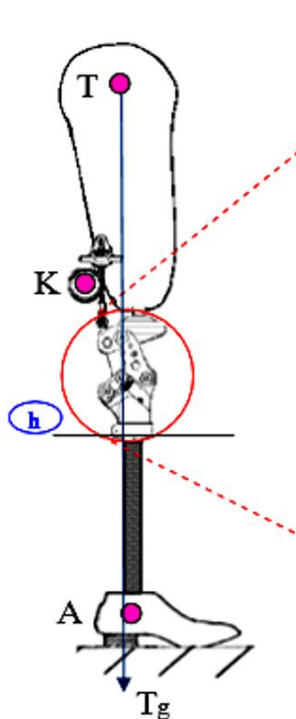
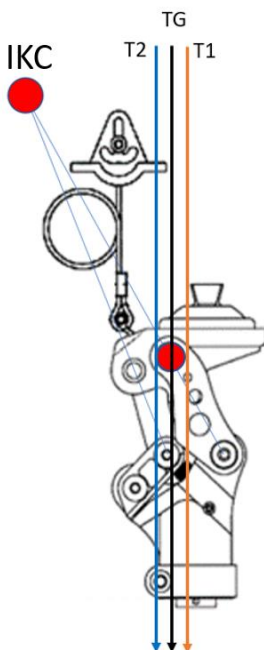

Fig. 2
Fig. 3
Note: 4-bar knees inherently are very stable due to the geometry built into each design. This is commonly referred to as the Instant Knee Center (IKC). The IKC point when doing bench alignment, will fall behind the traditional TKA line that we will reference. (Fig. 2,3) Tg line in Fig. 3 is ideal placement, but in certain instances, it may be necessary to accommodate placement anteriorly (into the T1 zone **up to 2mm**), or posteriorly (into the T2 zone **up to 2mm**). The Tg line is referencing a moving weight bearing line, so it could be in T1, neutral, or in T2 zones.
a) With prosthesis assembled, taking into account hip flexion contractures, abduction, Line Of Progression, and toe out (Fig.2), the TKA plumb line should pass through the knee center (at the proximal/anterior pivot – red dot pivot Fig.3) and in front of the K point (IKC).
- d) The weight line for Sagittal or A/P plane should have the plumb line passing through T (Tg) line. Ideally, Tg line should pass through the knee center (red colored pivot) and be perpendicular to the ground. (Fig. 3)
- e) **When to use ZONE 1 option** - For the higher weight spectrum patients, Tg line should pass slightly into the “Zone I” area (up to 2mm), which is indicated as up to “T1” (Fig. 3) so that it will reduce stance flexion moment forces of the 5th bar. It is recommended to have controlled stance flexion action of the 5th bar, and not to lock it out or have excessively long duration of it. Excessive stance flexion moment and/or duration can be adjusted through tightening the “Flexion Control Adjusting Screw” in, and/or adjusting alignment (of socket and/or foot) into the T1 zone (up to 2mm). The goal is to have smooth transition from stance flexion to neutral mid-stance motion, and not excessive stance flexion duration.
- f) **When to use ZONE 2 option** - For the lighter weight spectrum patients, such as women and children, Tg line should pass slightly into the “Zone II” area (up to 2mm), which is indicated as up to “T2” (Fig.3) so that it will increase stance flexion moment forces of the 5th bar linkage. It is recommended to have controlled stance flexion action of the 5th bar, and not excessively short duration, or abrupt motion of it. Excessive short stance flexion moment and/or duration can be adjusted through loosening the “Flexion Control Adjusting Screw” out, and/or adjusting alignment (of socket and/or foot) into the T2 zone (up to 2mm). The goal is to have smooth transition from stance flexion to neutral mid-stance motion, and not abrupt motion or excessively short stance flexion duration.
It is highly recommended that Tg line should ONLY pass through the "Red Dot". (Fig. 3)